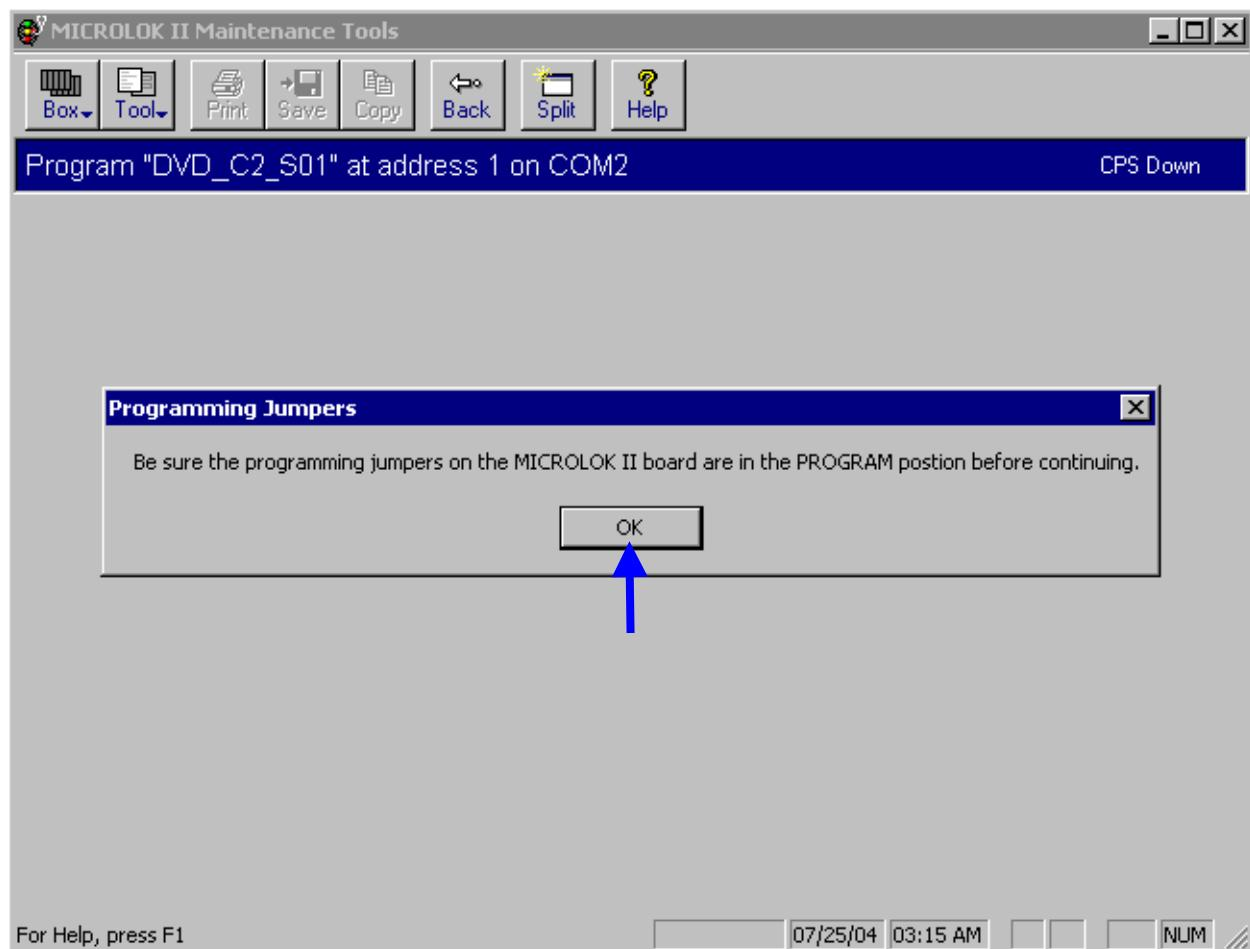

Figure-5.9.4
- ❖ “**Programming Jumpers**” mini window appears (Figure-5.9.4).